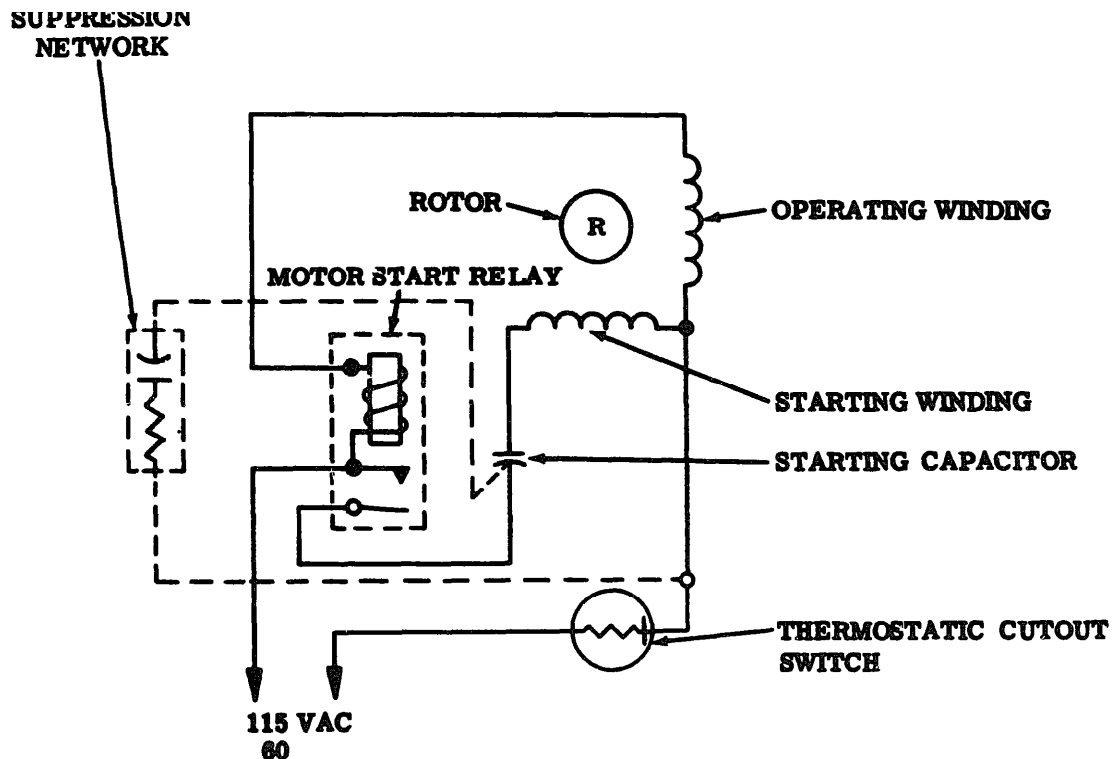

Figure 5- Typical Synchronous Motor Unit Schematic Diagram
3.04 In some motor units a suppression network is wired in parallel with the starting winding to suppress arcing of the relay contacts (Figure 5).